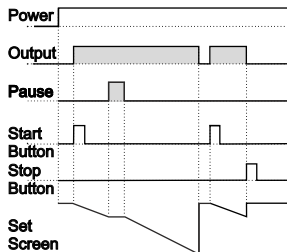

Figure 1.1
1.1.1 If downcount \boxed{DEC} = 1 and \boxed{OUT} is \boxed{ON} the control diagram is shown in Figure 1.1